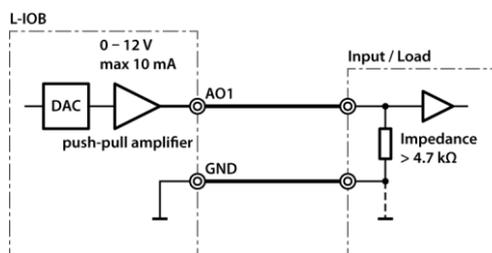

Figure 77: Analog outputs
Figure 77 shows the wiring of the analog outputs (AO). Observe that the analog outputs are labeled '0-10V OUT' but are in fact capable of delivering over 11V.